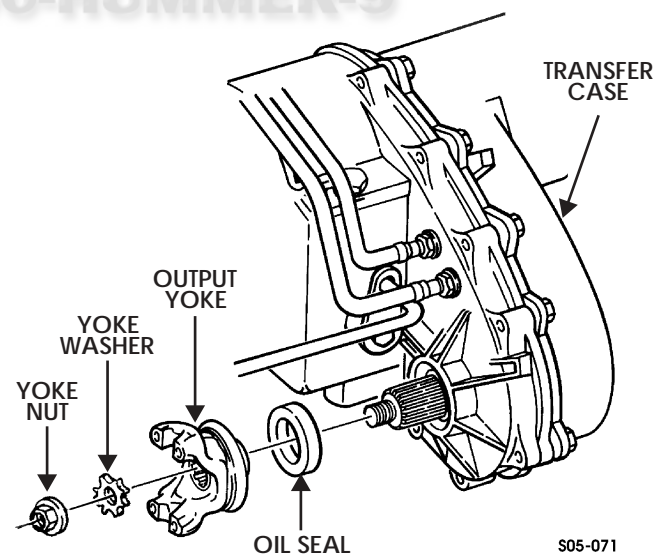

Figure 5-119: Oil Seal
2. Remove yoke nut, yoke washer, and output yoke from transfer case. Discard yoke washer (Figure 5-119).
1. Using output shaft seal installer, install oil seal in transfer case (Figure 5-119).